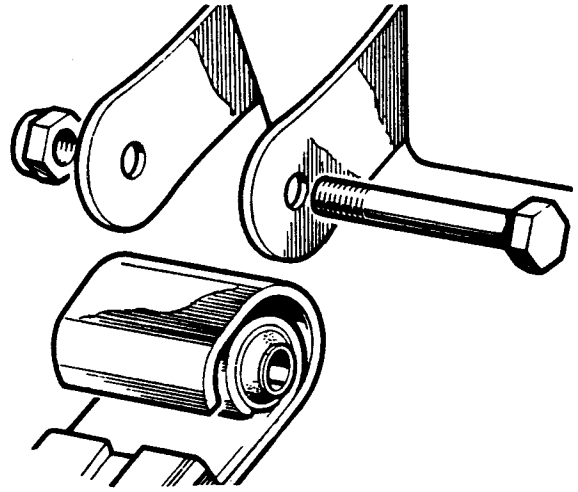

Fig J1.11
(2) Refer to Fig J1.11. Fit the two rearmost shackle pins but do not tighten any of the six shackle pins at this stage.